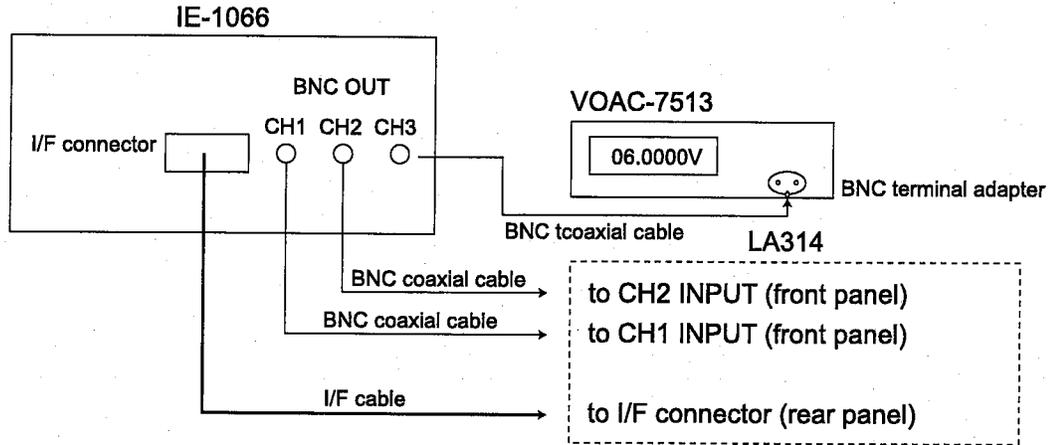

Figure 2.13 Connection IE-1066 to LA314
- ② Connect between the IE-1066 OUTPUT connectors and the LA314 INPUT connectors with the BNC coaxial cables (See Figure 2.13).